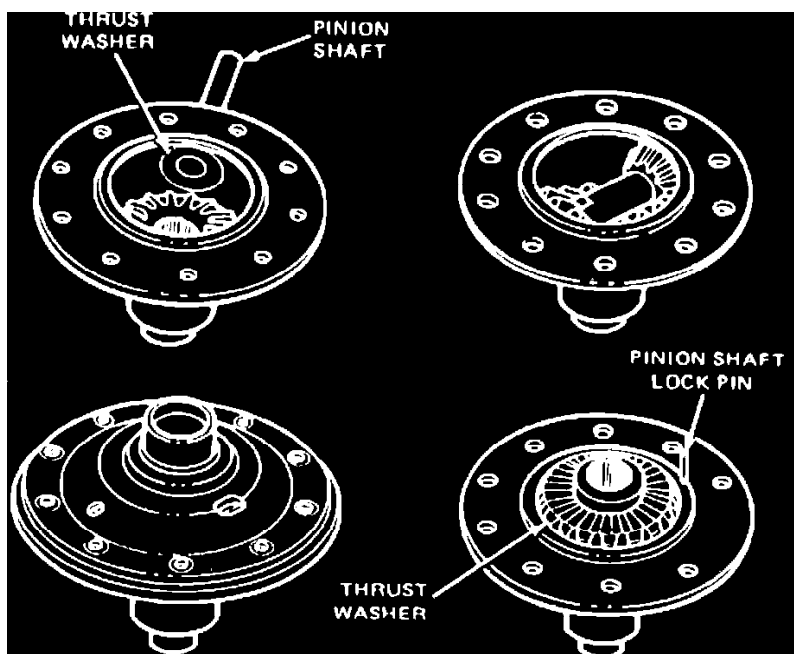

Fig. 10 Assembling differential case
1. Place side gear thrust washer and side gear in differential case bore, **Fig. 10. Liberally lubricate all differential components with suitable lubricant during assembly.**